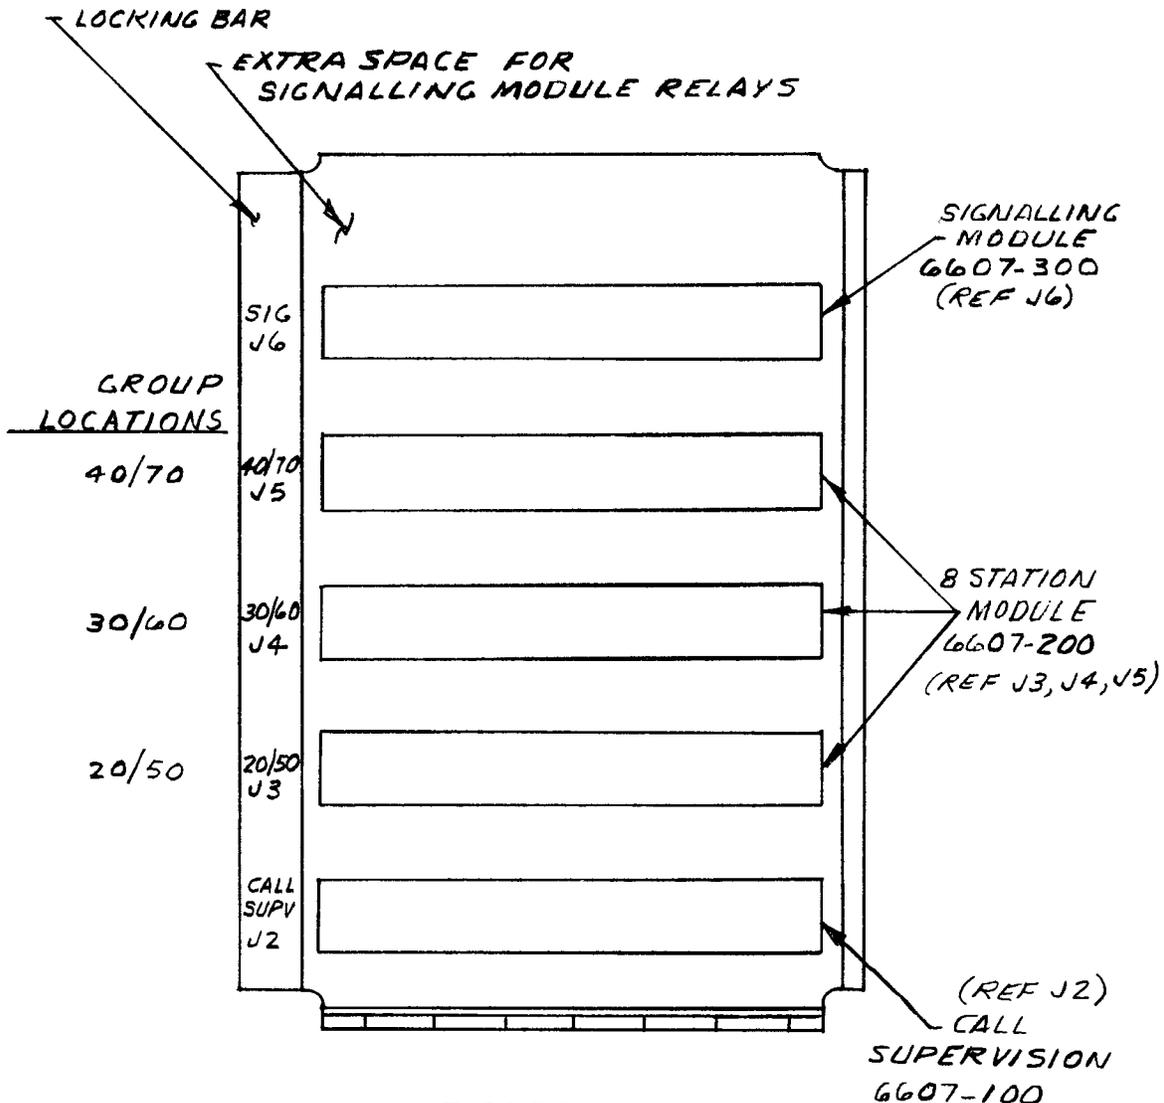

FIGURE 1
- a. Referring to Figure 1 of this document, position the card cage with the locking bar on the left. (Note the extra space above the J6 connector.) All cards will insert with the components above their printed board. The Call Supervision Module inserts in the bottom card position designated J2. Card positions J3, J4, and J5 are for the Eight Station Module cards. While these cards may be interchanged with each other, the card positions themselves correspond to specific station groups. The J3 card position corresponds to the 20's group in a one to three link system; the J4 position corresponds to the 30's group; and the J5 position corresponds to the 40's group. In a four to six link system, the J3, J4 and J5 positions in the second card cage correspond to the 50's, 60's and 70's group respectively. The J6 position is for the Signaling Module.